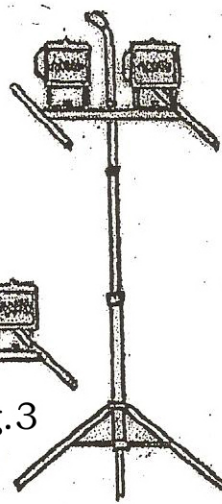

Fig.4
- 3 Install the lamp (b) onto the Delta frame supporter (a); The height of the supporter can be adjusted, the Max. height reaches 1.8m; **(see fig.4)**